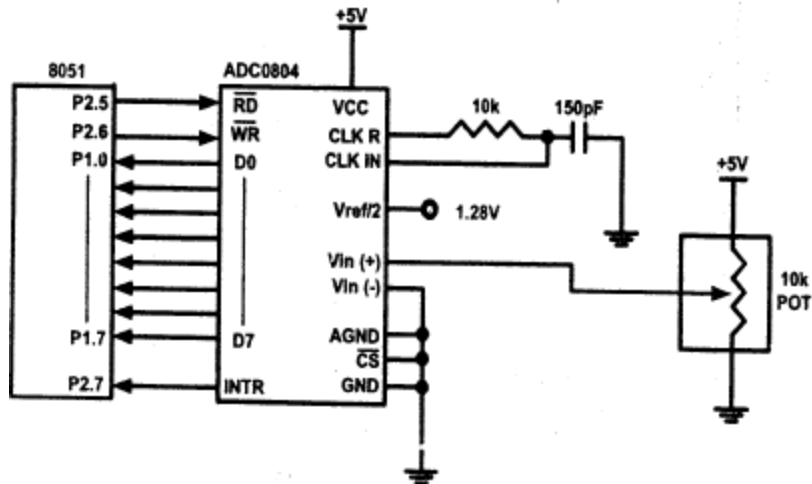

Figure 5.7 8051 Connection to ADC0804 with Self-Clocking
- Figures 5.7 and 5.8 show two ways of providing clock to the ADC804.